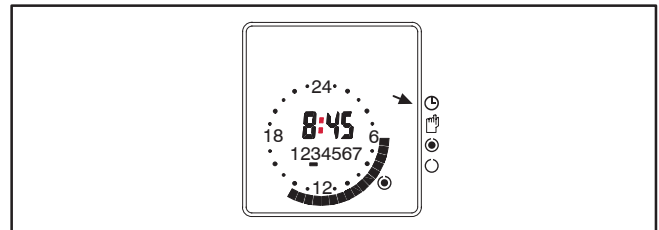

**FIGURE 13. DELETE PROGRAM MENU**
**NOTE:** If the Delete Program menu is displayed (see Figure 13), **CL r** is displayed, indicating that the exercise program can be deleted by pressing the **OK** button.